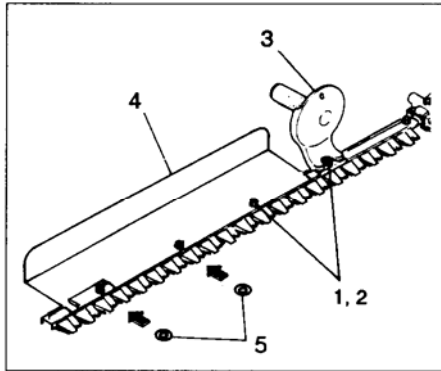

Fig. 1-1
Handle B (3) and Gathering Plate (4) (Fig. 1-1)
1. Remove the four washers and nuts (1) from cutting blade end.